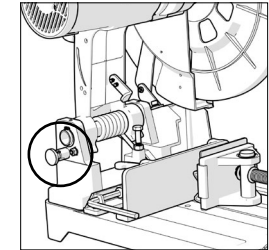

Fig. 1
- Pull out the head latching pin and lock in the outer position **(Fig. 1)** Allow the cutting head to rise to its upper position.